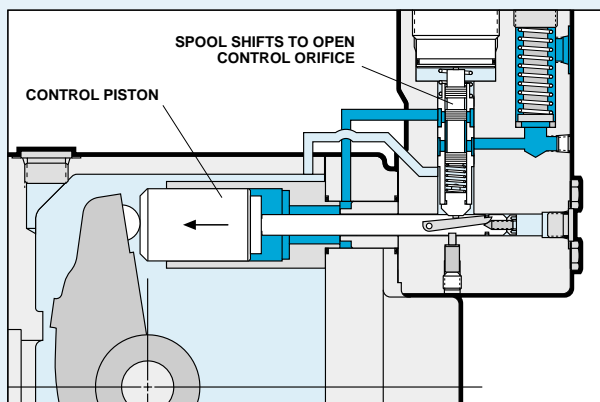

Figure 2: Pilot flow ported through control orifice
**FIGURE 2:** In response to the electrical signal, the force motor armature retracts. The pilot spool, held in contact with the armature, moves inside the sleeve directing pilot flow to the control piston through the now open orifice. Movement of the piston changes the cradle angle and brings the pump on-stroke.